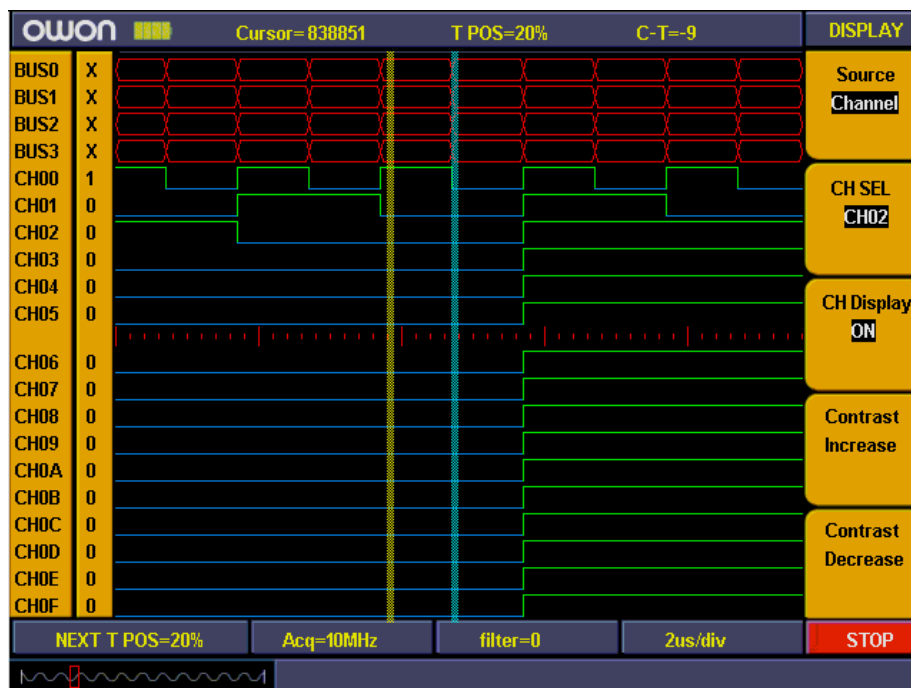

Fig.4-13
- 4、 Press "**F3**" and set the signal sources as "**ON**". Repeat operation of steps 3.4 and set CH01, CH02 as "**ON**" and CH03-CH0F as "**OFF**". Refer to Fig.4-13.